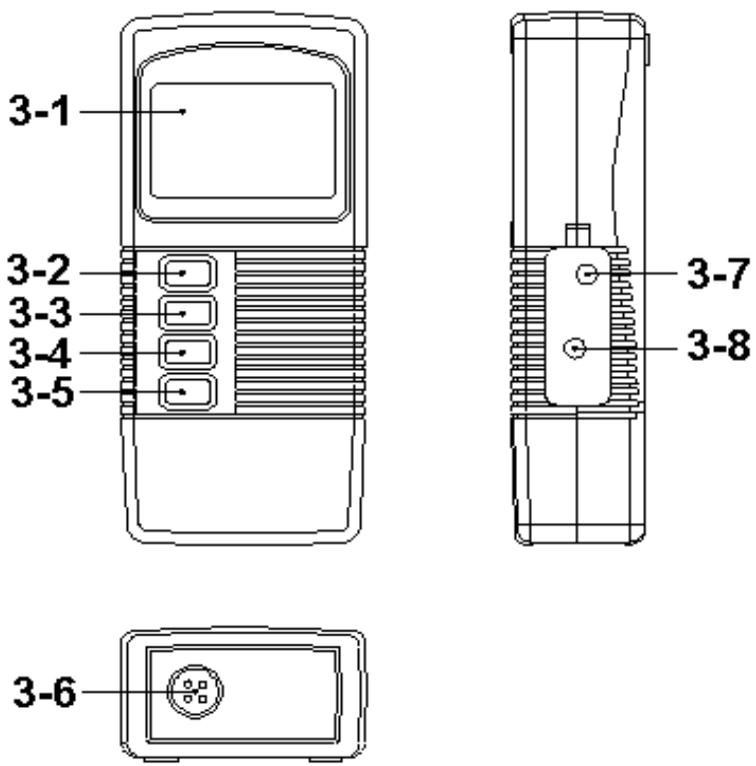
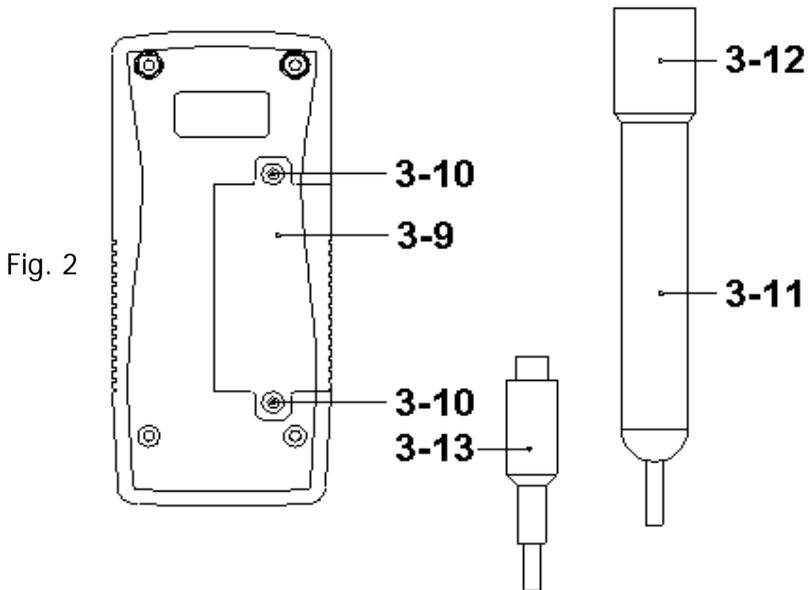

Fig. 1
Fig. 2
1) Turn on the meter by pressing the " Power Button " ( 3-2, Fig. 1 ) momentarily.
*\* Press the " Power Button " ( 3-2, Fig. 1 ) momentarily again will turn off the meter.*
Connect the " Probe Plug " ( 3-13, Fig. 2 ) into the " Probe input socket " ( 3-6, Fig. 1 ).
The " Display " ( 3-1, Fig. 1 ) will show the unit as :
2) Hold the " Probe Handle " ( 3-11, Fig. 2 ) by hand and immerse the " Sensing Electrode " ( 3-12, Fig. 2 ) immersed wholly into the measured solution. Shake the " Sensing Electrode " to let the electrode's internal air bubble drift out from the sensing Electrode.
" Display " ( 3-1, Fig. 1 ) will show the conductivity mS ( uS ) values, at the same time the left bottom display will show the Temp. value of the measured solution.
1) During the above 4-1 Conductivity measurement, if press the " Hold button " ( 3-3, Fig. 1 ) continuously at least two seconds will enter into the function of TDS measurement with default, the display will show as :
2) During the TDS measurement, if press the " Hold button " ( 3-3, Fig. 1 ) continuously at least two seconds again will enter into the function of Conductivity measurement with default, refer section 4-1.
During the measurement, press the " Hold button " ( 3-3, Fig. 1 ) once will hold the measured value & the LCD will display a " HOLD " symbol.
\* The data record function records the maximum and minimum readings. Press the " REC button " ( 3-4, Fig. 1 ) once to start the Data Record function and there will be a " REC " symbol on the display.
a) Press the " REC button " ( 3-4, Fig. 1 ) once, the " REC MAX " symbol along with the maximum value will appear on the display.
If intend to delete the maximum value, press the " Hold button " ( 3-3, Fig. 1 ) once, the display will show the " REC " symbol only & execute the memory function continuously.
b) Press the " REC button " ( 3-4, Fig. 1 ) again, the " REC MIN. " symbol along with the minimum value will appear on the display.
If intend to delete the minimum value, press the " Hold button " ( 3-3, Fig. 1 ) once, then the display will show the " REC " symbol only & execute the memory function continuously.
- a) Press the " REC button " ( 3-4, Fig. 1 ) once to start the Data record function and there will be a " REC " symbol on the display.
Press the " Logger button " ( 3-5, Fig. 1 ) once to start the Data Logger function. The " REC " symbol will flash per 1.5 second and the beeper will sound when save the data into the memory. Now the Data Logger function is executed.
Press the " Logger button " ( 3-5, Fig. 1 ) once will save the data one time into the memory, at the same time the symbol " REC " will flash once and the beeper will sound.
- c) During the Data Logger function is executed, press the " Logger button " ( 3-5, Fig. 1 ) once will stop the data logger function, the " REC " symbol will stop to flash.
If press the " Logger button " ( 3-5, Fig. 1 ) once again will continuous the Data Logger function.
- a. Hold the " Setting button " ( 3-5, Fig. 1 ) at least five seconds will enter the Advanced Setting Procedures.
- b. One by one to press the " Setting button " ( 3-5, Fig. 1 ) once a while to select the main setting function in sequence and show on the text the lower display as :
After the low display show " SEt ", press the " Enter button " ( 3-4, Fig. 1 ) once. the " SEt " symbol will flash, the up display will show the " Temp. compensation factor ".
Use " ▲ button " ( 3-3, Fig. 1 ) and " ▼ button " ( 3-5, Fig. 1 ) to adjust the up display value until it same as the desiring Temp. Compensation Factor value ( unit is % per °C ) exactly.
After select the desiring value, press the " Enter button " ( 3-4, Fig. 1 ) to save the data.
- a. Use " ▲ button " ( 3-3, Fig. 1 ) to select " °C " or " °F ".
- b. After select the desiring value ( °C or °F ), press the " Enter button " ( 3-4, Fig. 1 ) to save the data with default.
- a. Use " ▲ button " ( 3-3, Fig. 1 ) to select " YES " or " no ".
- b. After select the desiring function ( YES or no ), press the " Enter button " ( 3-4, Fig. 1 ) to save the function with default.
- a. Use " ▲ button " ( 3-3, Fig. 1 ) to select data logger sampling time to
- b. After the sampling time value is determined, press the Enter button " ( 3-4, Fig. 1 ) to save the sampling time with default.